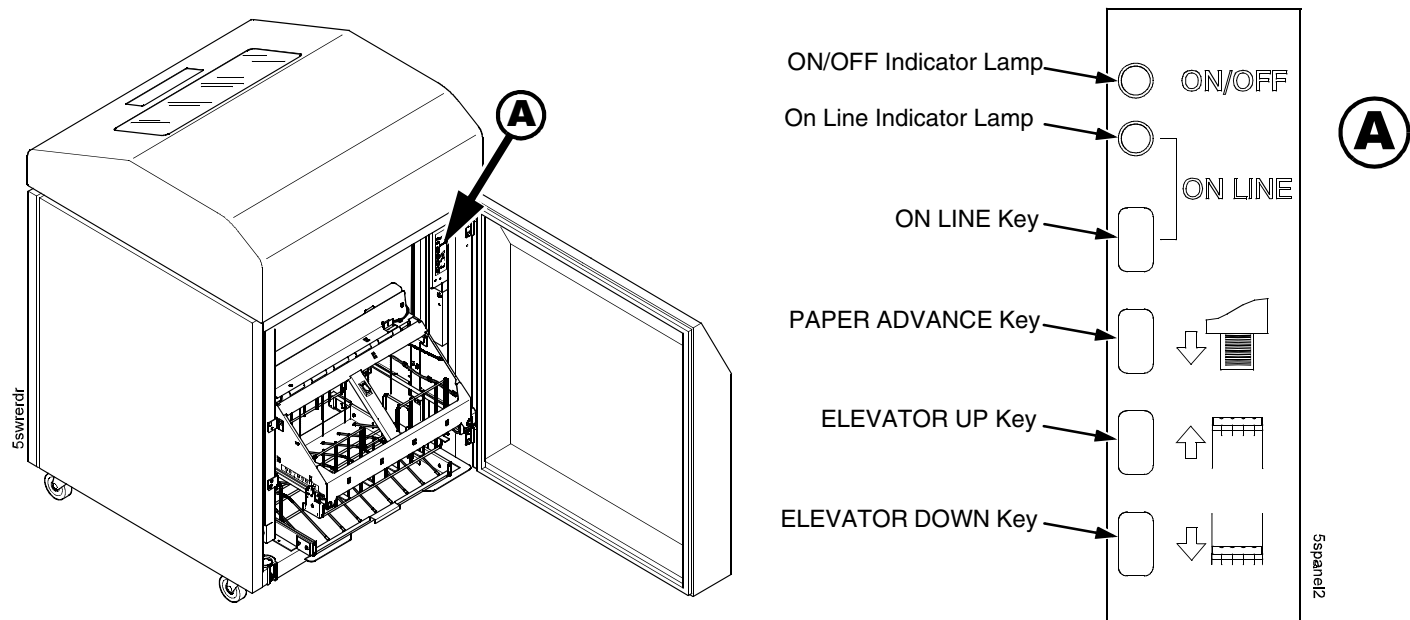

Figure 57. This figure shows the location of the power stacker operator panel and the keys on the operator panel.
The stacker operator panel is behind the rear door of the cabinet. (Figure 57.)
3. On the stacker operator panel, press **ON LINE** to take the printer offline (NOT READY). (Figure 57.)
4. Press the **ELEVATOR UP** key and wait for the elevator assembly to reach the top of its travel. (Figure 57.)